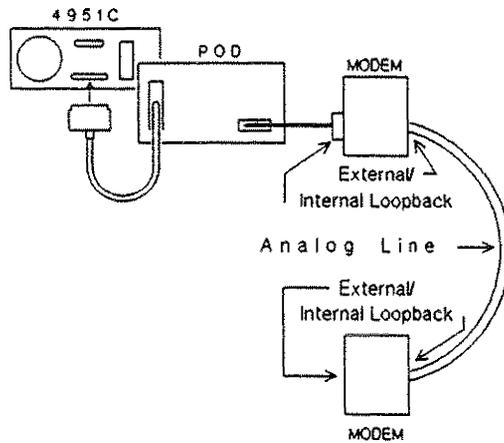

Figure 6. Loopback BERT Hookup
- b. Loopback. Substitute an HP 4951C for only one DTE and "loopback" the modem or terminal at the other end of the line. (Figure 6).